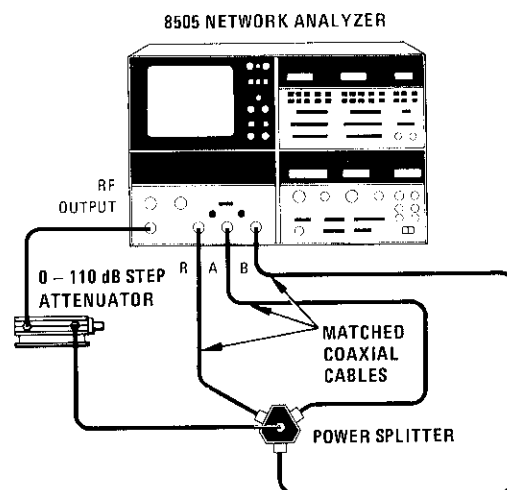

Figure A5-30. A3A12 Phase Detector Test Setup
- c. Connect equipment as shown in Figure A5-30. Set external attenuator to 40 dB.